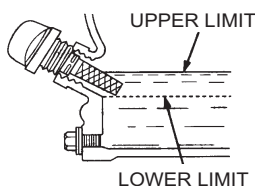

Figure 5. Engine Oil Level
4. If the oil level is low (Figure 5), fill to the edge of the oil filler hole with the recommended oil type (Table 4). Maximum oil capacity is 0.63 quart.